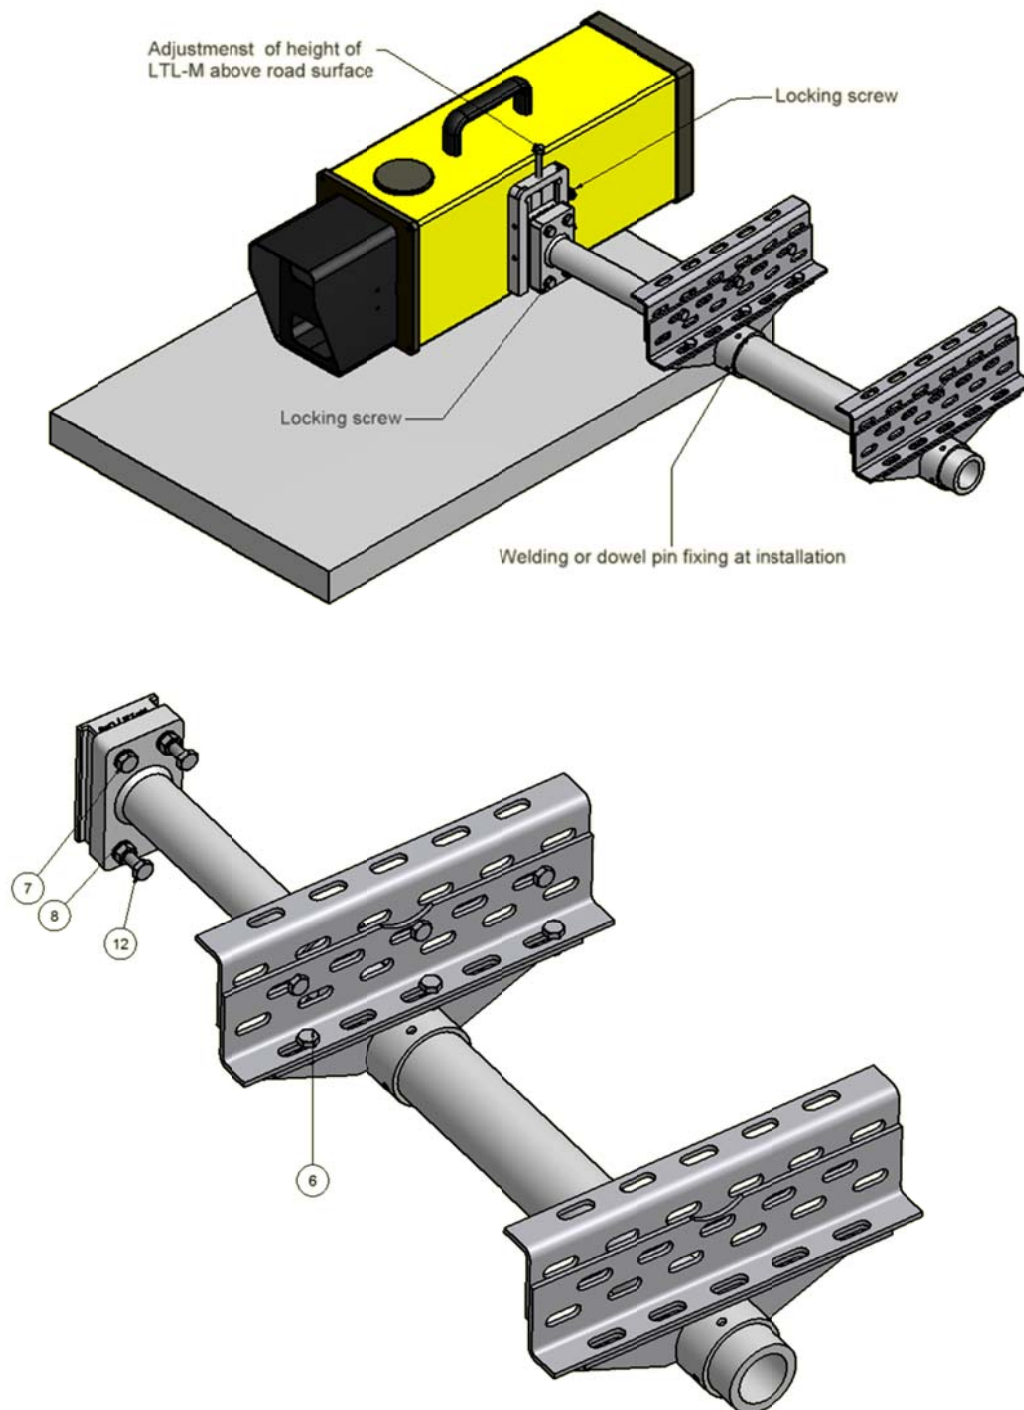

Figure: 5: Adjustment and ensuring fixations of the LTL-M before operation
Checklist for adjustment and ensuring fixation before operations of the LTL-M (figure 5):
- Loosen the parts 7 (screw), 8 (nut) and 12 (screw) on figure 5. Place a level on the sensor housing and adjust the housing so it's horizontal. Tighten parts 7, 8 and 12.
- Adjust the height so the distance from the housing to the road surface is 100 mm / 4 inch using screws shown on the upper figure of figure 5. When this is done tighten the locking screws.